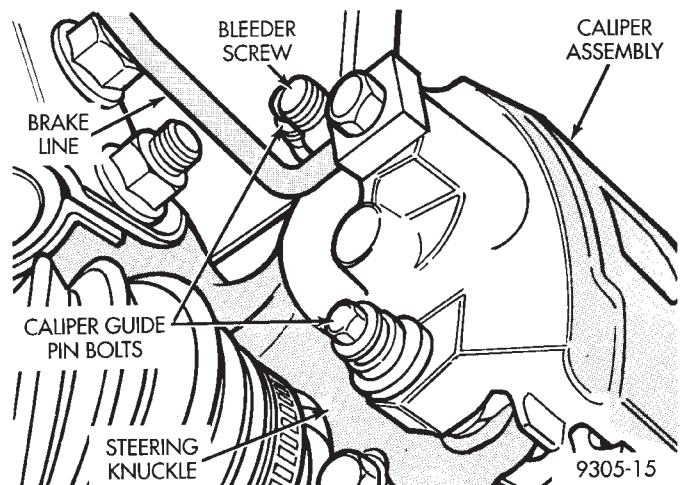

Fig. 7 Front Disc Brake Caliper Mounting Bolts
(4) Install braking disc back on front hub and bearing assembly. Install front brake caliper assembly on steering knuckle attaching bolts (Fig. 7). Torque the caliper assembly attaching bolts to 19 N•m (192 in. lbs.).